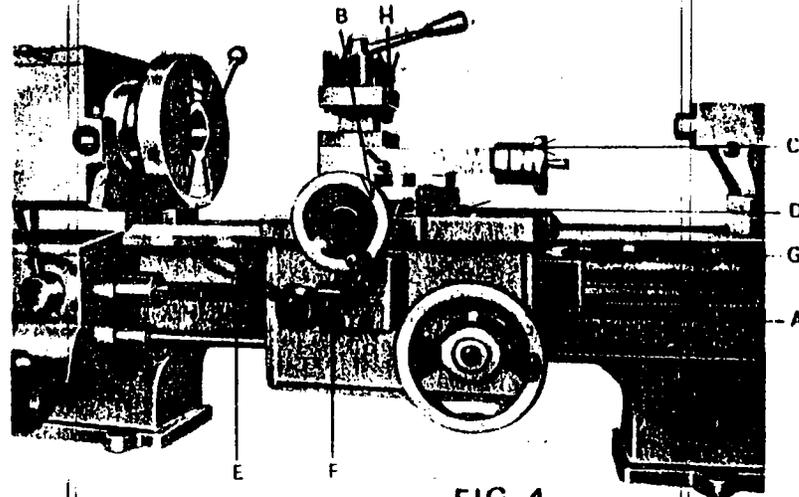

FIG. 4
Handwheel (A, Fig. 4) manually moves carriage along the lathe bed. Handwheel collar is graduated in 0.03
Cross handwheel (B Fig 4) moves the cross slide in and out. Micrometer dials fitted to cross slide in 0.01 graduations.
Tool post slide handwheel (C Fig 4) moves the tool post slide in and out. Handwheel Collar is graduated in 0.01
Carriage lock screw (D, Fig. 4) locks carriage to bed for facing or out off operations.
Half-nut lever (E, Fig. 4) engages half-nuts with lead screw for threading. When lever is moved down, it engages half-nuts with lead screw, carriage travels along bed as lead screw turns.
Longitudinal & Cross Feed Control Lever (F, Fig 4):
The threading dial (G, Fig 4) performs the important function of indicating the proper time to engage the half-nut lever so that tool will enter the same groove of the thread on each successive cut. To avoid excessive wear of threading dial gear, loosen clamp screw and swing gear away from lead screw when not threading.
4-Ways tool post (H, Fig 4) hold the cutting tools rigidly in positions for cutting operations. The cutting edge of the tools should be placed on lathe center line. To push the head of lever (I) in counterclockwise side for unlocking and to locate the tool post. To pull the head of lever in clockwise for locking it at the located position.
4. Loosen the outside bearing adjusting nut (G, Fig. 4) and tighten the inside bearing nut (H, Fig. 4) until spindle end play has been eliminated.